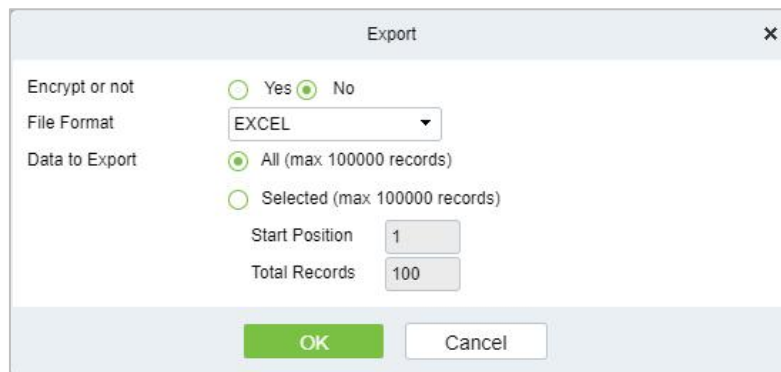

Figure 12-53 Report Export Interface
Step 3: In the All-Exception Events interface, click **Export**, enter the user password in the pop-up security verification, and click **OK**. Select whether to encrypt and export the file format, and Click **OK**, as shown in Figure 12-53.